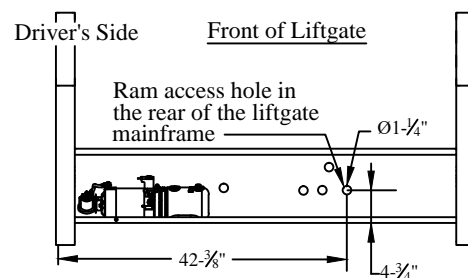

Figure 12: Spare tire access.
2. **Remove** the black plastic plug from the mainframe in the location shown (Figure 12).